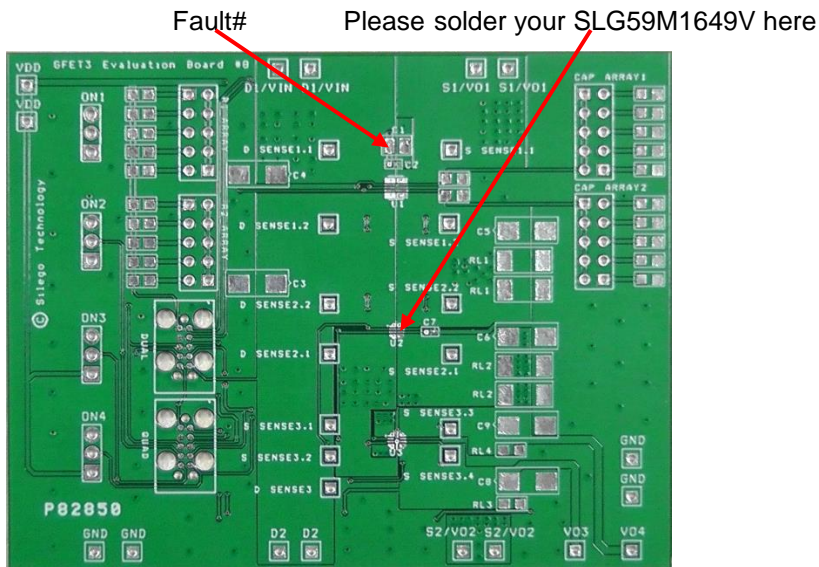

Figure 3. SLG59M1649V Evaluation Test Board
2.2. The VIN and VOUT pins carry significant current. Please note how the VIN and VOUT pads are placed directly on the power planes in Figure 3, which minimizes the RDS(ON) associated with long, narrow traces. The VIN and VOUT pins dissipate most of the heat generated during high-load current condition. The layout shown in Figure 3 is illustrating a proper solution for heat to transfer as efficiently as possible out of the device.